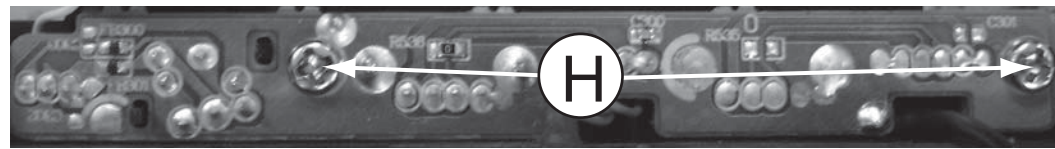

Figure 9
- 3) Loosen 2 screws "H" on the USB PCB to remove it as shown in figure 9.